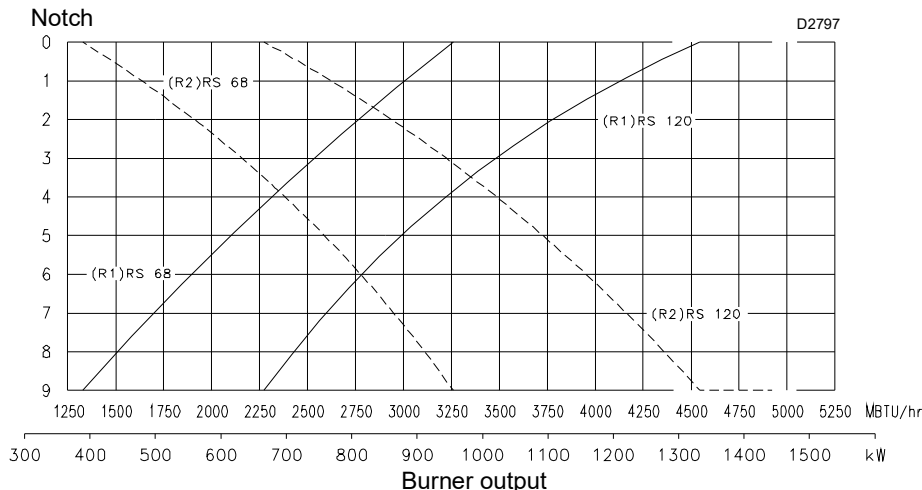
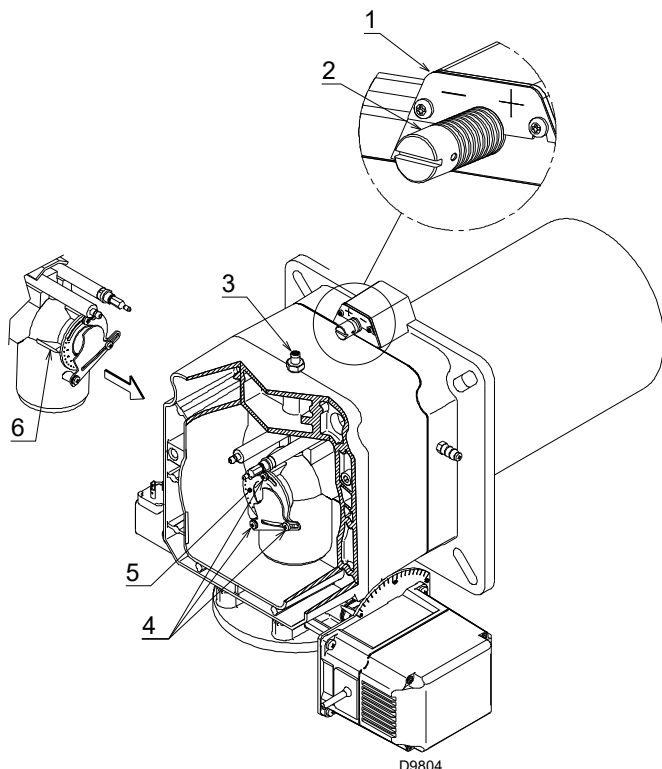

Fig. 15
Fig. 16
In the diagram of Fig. 15, find the notch at which to adjust both air and central gas/air.
Turn screw 4)(Fig. 16) until the notch identified is aligned with the front surface 5)(Fig. 16) of the flange.
To facilitate adjustment, loosen the screw 3)(Fig. 16), adjust and then lock.
- Loosen the 3 screws 4)(Fig. 16) and turn ring 5) until the notch identified is aligned with index 6).
If we consult diagram (Fig. 15) we find that for this output the adjustments are:
Diagram (Fig. 15) indicates an optimal regulation for a type of boiler seen in Fig. 3, page 10.
Continuing with the previous example, (Fig. 25, page 24) indicates that for burner with output of 3750 MBtu/hr a pressure of approximately 2.8" is necessary at test point 3)(Fig. 16). If this pressure cannot be reached, open the ring 5)(Fig. 16) to notch 4 or 5.
- Ring nut 2)(Fig. 16) adjusted as in the diagram of Fig. 15
- Gas ring 2)(Fig. 16, page 19) adjust as indicated in diagram Fig. 15, page 19